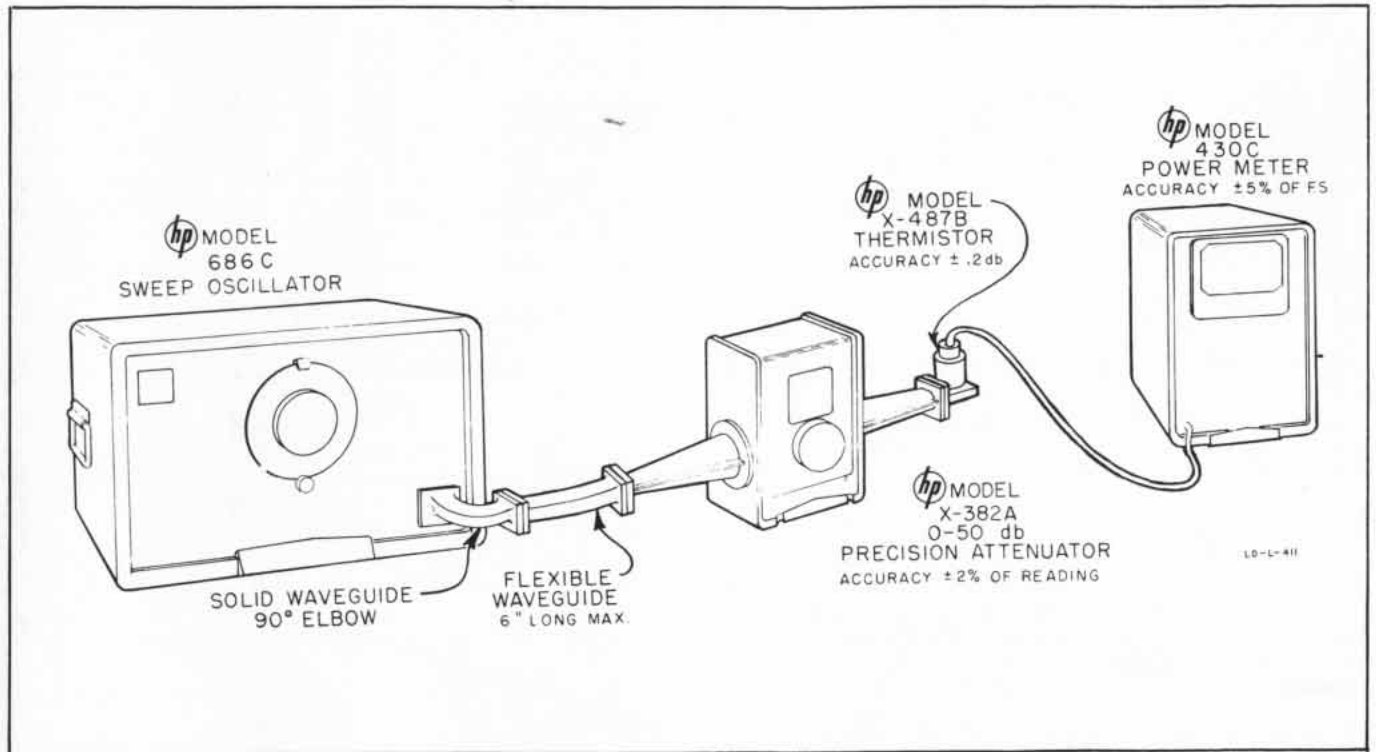

Figure 4-1. Measuring RF Output
- 1) Set up equipment as shown in figure 4-1.